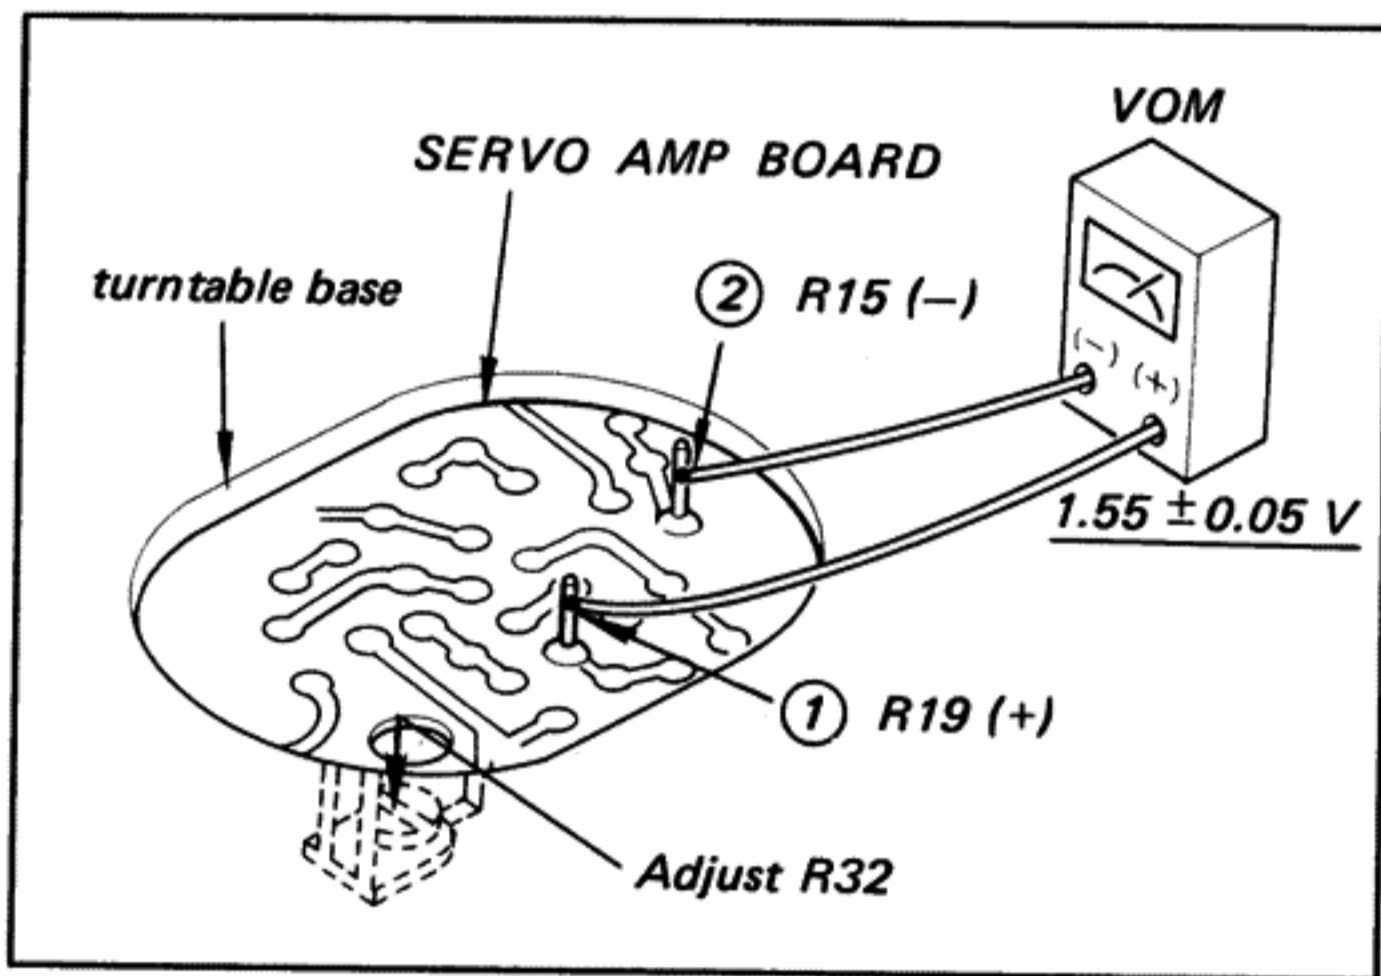

Fig. 3-8. Trigger level adjustment
5. Connect the positive side of VOM to R19 ① and the negative side to R15 ② as shown in Fig. 3-8.
6. Adjust R32 (See Fig. 3-8.) so that the VOM reads  $1.55 \pm 0.05$  V.